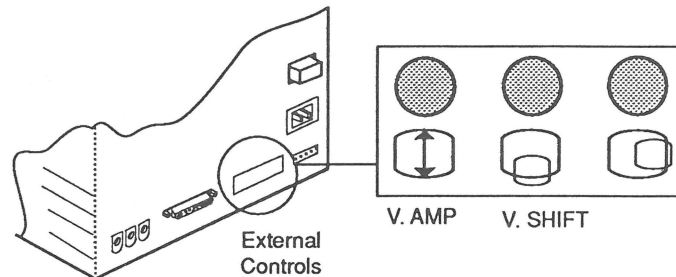

FIGURE 7
2. Using the insulated plastic screwdriver, turn the vertical center (V.SHIFT) control (**Figure 7**) until the raster is centered (top to bottom) in the display area.